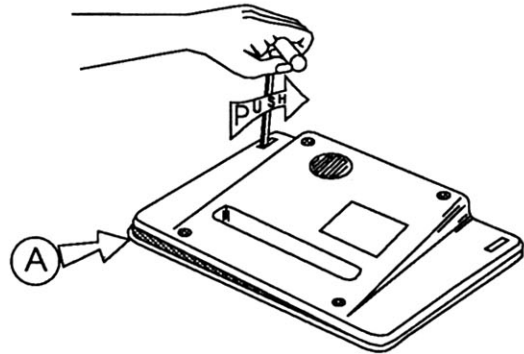

Figure 3-3: Opening Case (left side)
Step 4 While holding the fastener open, push the T-handle tool to open the case. The case will open at point A (see figure 3-3).